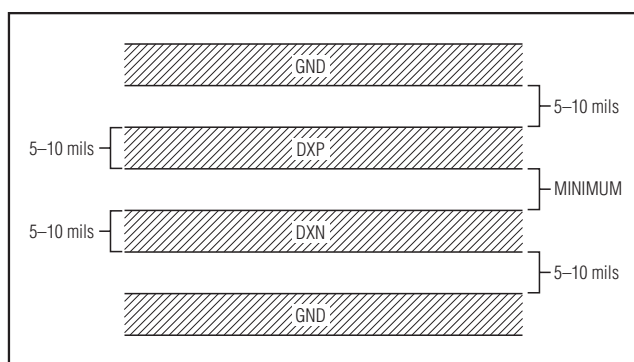

Figure 5. Recommended DXP-DXN PCB Traces. The two outer guard traces are recommended if high-voltage traces near the DXN and DXP traces.
- 3) Route the DXP and DXN traces in parallel and in close proximity to each other. Each parallel pair of traces should go to a remote diode. Route these traces away from any higher voltage traces, such as +12VDC. Leakage currents from PCB contamination must be dealt with carefully since a 20M Ω leakage path from DXP to ground causes about +1°C error. If high-voltage traces are unavoidable, connect guard traces to GND on either side of the DXP-DXN traces (Figure 5).